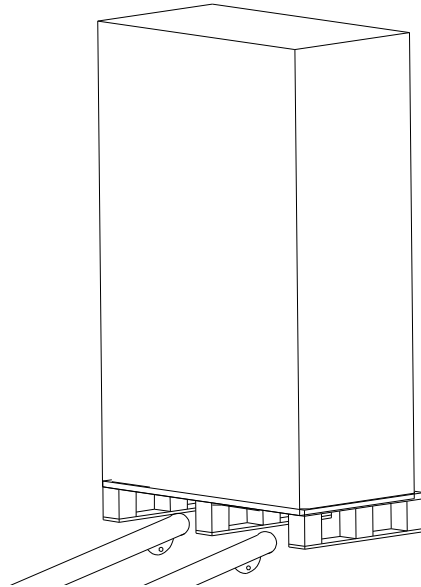

Fig.3-5 Transport to the designated site
2. Transport the equipment to the designated site by forklift, as shown in Fig.3-5.